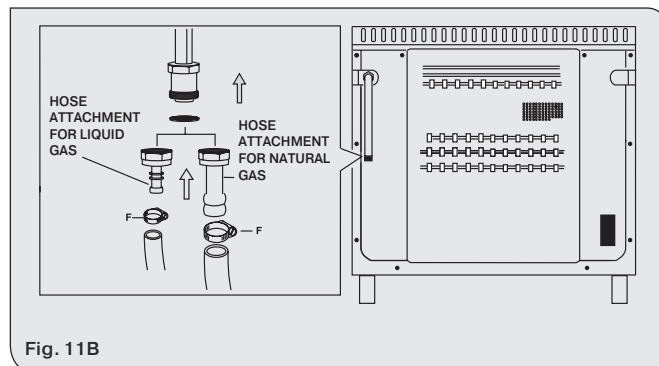

Fig. 11B
3) by the insertion of a rubber tube in accordance with rules. This tube must be connected directly on the push-on connector, concerning the gas used, and it must be blocked with a band. In the last case, check the tube's printed date of expiry and replace it before this date (see fig. 11B).